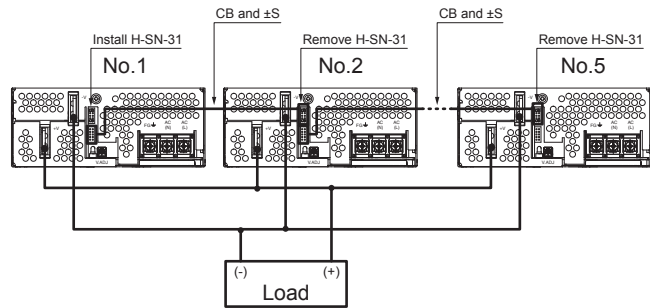

Fig.5.10 Parallel operation condition (Example of PJMA1000F)
- ① (Before wiring) set the output voltage of each unit to the desired value. The output voltage difference between the units must be less than 0.1V or 1% of the rated output voltage, whichever is smaller.
- ② Wire the power supplies as shown in Fig. 5.10. Make sure the output wires of the unit connected in parallel are of the same length and the same type.
- ③ Make sure the total output current does not exceed the value determined by the following formula: